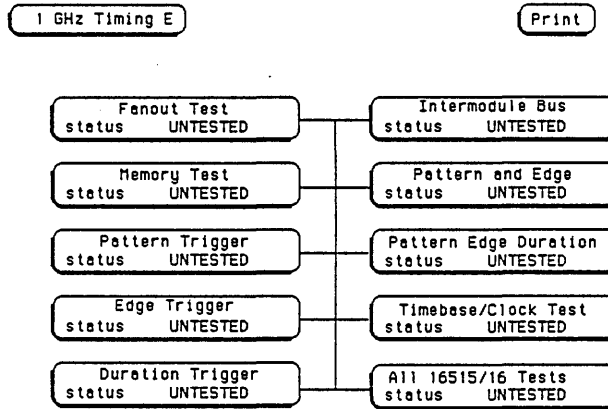

Figure 6-7. Main Test Menu
- Figure 6-7 is the main self test menu. Self tests can be run individually by touching a specific test field, or altogether by touching "All 16515/16 Tests". When "All 16515/16 Tests" is run, the test status will change to "TESTED". When individual tests are run, the status will change to either "PASSED or FAILED".